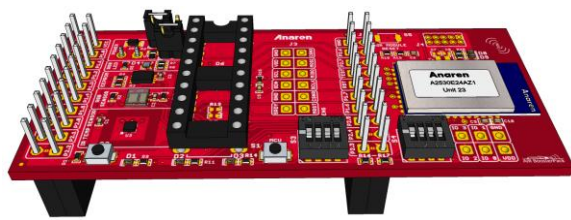

Figure 7 – BoosterPack with Additional Connectors Installed
- 1) Install 10-pin connector (not included) at BoosterPack J1 Test Points location. This corresponds to the LaunchPad J3 connector (see Figure 7). The same can be done for BoosterPack J2 Test Points (LaunchPad J4), although this is optional. Only LaunchPad pins J3.3 and J3.4 are utilized by the BoosterPack. The remaining J3 and J4 LaunchPad signals are simply pass-thru.